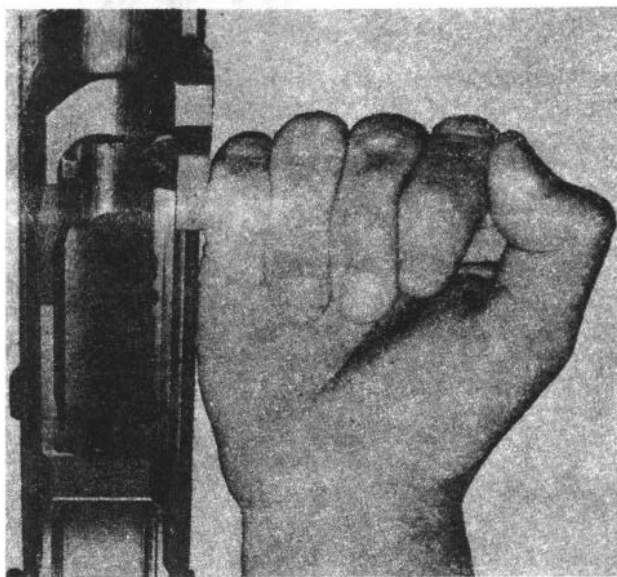

Figure 32. Applying immediate action.
a. *Immediate action is the prompt action taken by the firer to reduce a stoppage.* To apply immediate action, pull the operating rod handle all the way to the rear with the right hand, *palm up*, then release it. The right hand should be held in the manner shown in figure 32 so it will not be injured in the event of a hangfire. Next, aim the rifle and try to fire it.